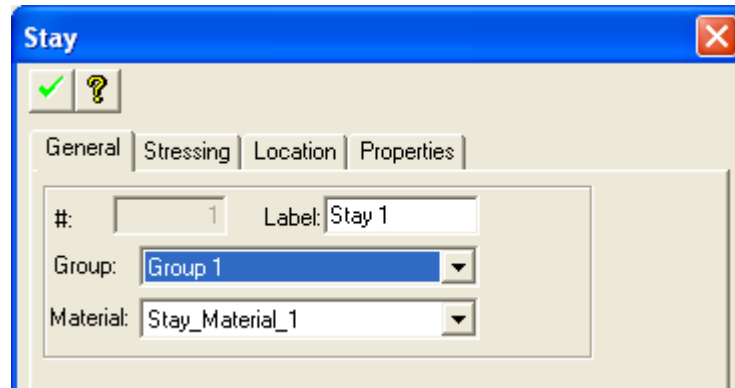

FIGURE 2.14-5 STAY PROPERTY BOX
- Click on the Create Stay  tool. The stay’s property box opens as shown in **Figure 2.14-5** (if this is the option you have selected in the General Settings tool).